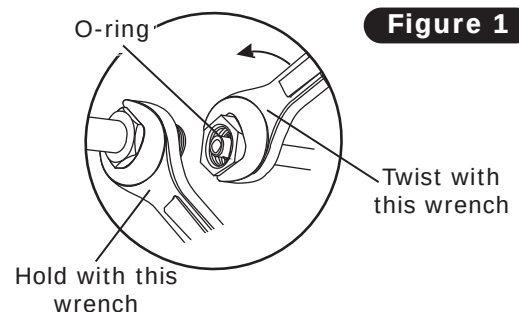

Figure 1
1. Lubricate (2) #6 O-rings, and install one onto each end of the #6 condenser/core hardline (See Figure 1, Page 9). Install the end of the hardline with the 90° bend onto the #6 condenser fitting (See Photo 1, below).
2. Align and install the opposite end of the #6 condenser/drier hardline onto the drier at the IN fitting (See Photo 2, below). Tighten both ends of the hardline (See Figure 1, Page 9). **NOTE: Tighten the 1/4" nut with star washer securing the drier to the drier bracket at this time.**
3. Lubricate a #8 O-ring, and install it onto the female end of the #8 condenser/core hardline (See Figure 1, below). Install the #8 condenser/core hardline onto the #8 condenser fitting as shown in Photo 3, below.